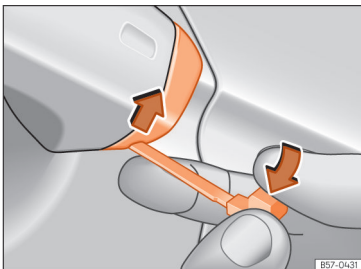

Fig. 56 Driver's door handle: pry the cover open.
- Insert the emergency key into the lower opening in the cover on the driver door handle then lift the bottom cover upwards >>> **Fig. 56**.